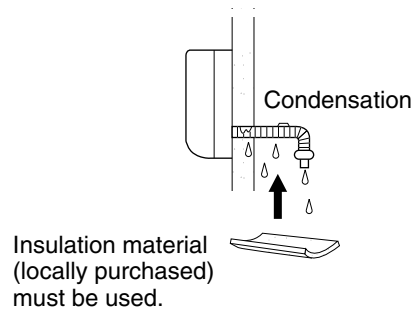

Fig. 3-52
- c) If the drain hose will run in the room, insulate the hose with insulation* so that chilled condensation will not damage furniture or floors. (Fig. 3-52)